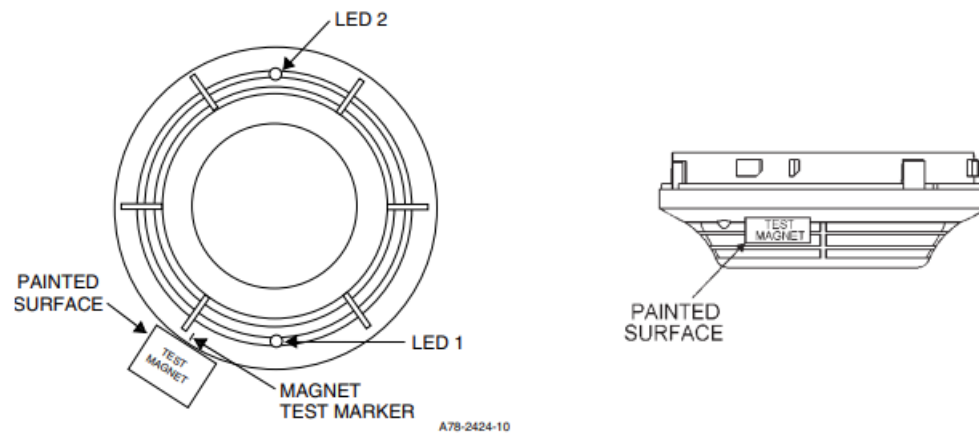

Figure 3. Test Magnet Positioning
4. See Figure 3. Test the sensor by positioning a test magnet (M02-04) against the sensor plastic in the magnet test area. The alarm level should be recognized at the panel and the LED controlled by a communication command from the panel.
- Test the sensor by positioning the optional test magnet against the sensor plastic in the magnet test area, as shown in Figure 3.